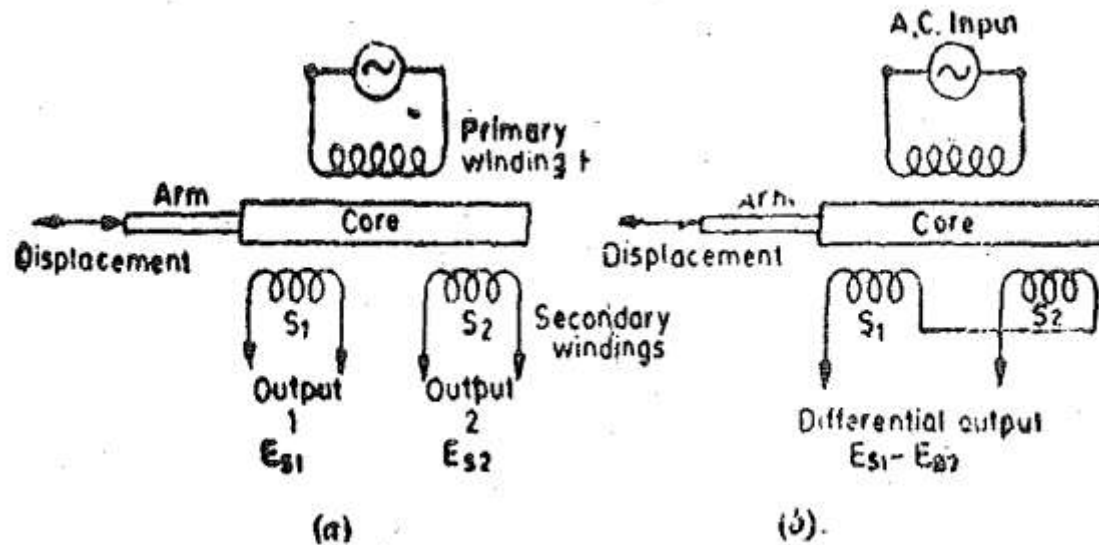

Fig. 25.38. Circuits of an LVDT.
- In order to convert the outputs from S1, and S2 into a single voltage signal, the two secondaries S1 and S2 are connected in series opposition as shown in Fig. 25-38 (b).